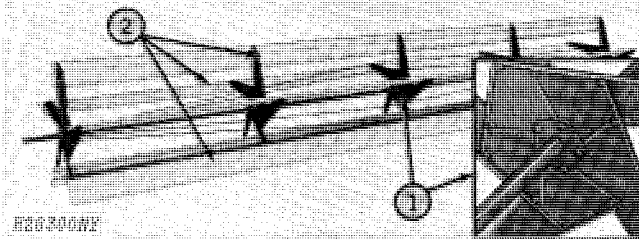

Fig. 56-Assembly of Metal Slat Reel
1. Assemble arms and attach arms to reel shaft with 3/8 x 3/4-inch cap screws (Fig. 56).
2. Attach metal reel slats to arms with 1/4 x 5/8-inch truss head machine screws (Fig. 56).